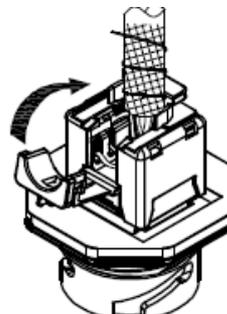

Fig.6
7. Ensure that the foil and drain wire on the cable is in contact with the shielded collar of the jack shielded cap. (Fig. 6)